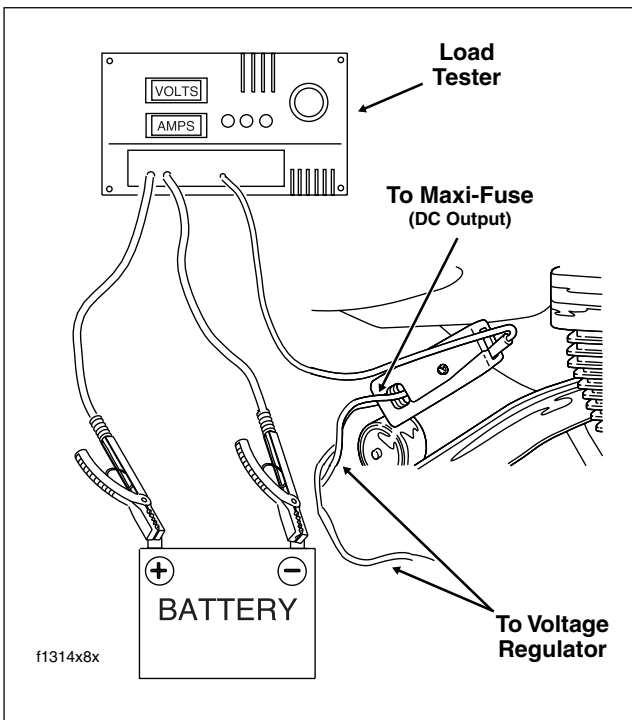

Figure 1-14. Current and Voltage Output Test
1. Connect load tester negative and positive leads to battery terminals and place load tester induction pickup over positive regulator cable as shown in Figure 1-14.
See Figure 1-14. After removing the load, read the load tester voltage meter. Voltage to the battery must be less than 15 volts. If voltage is higher, the voltage regulator is not functioning properly or connections are loose or dirty.